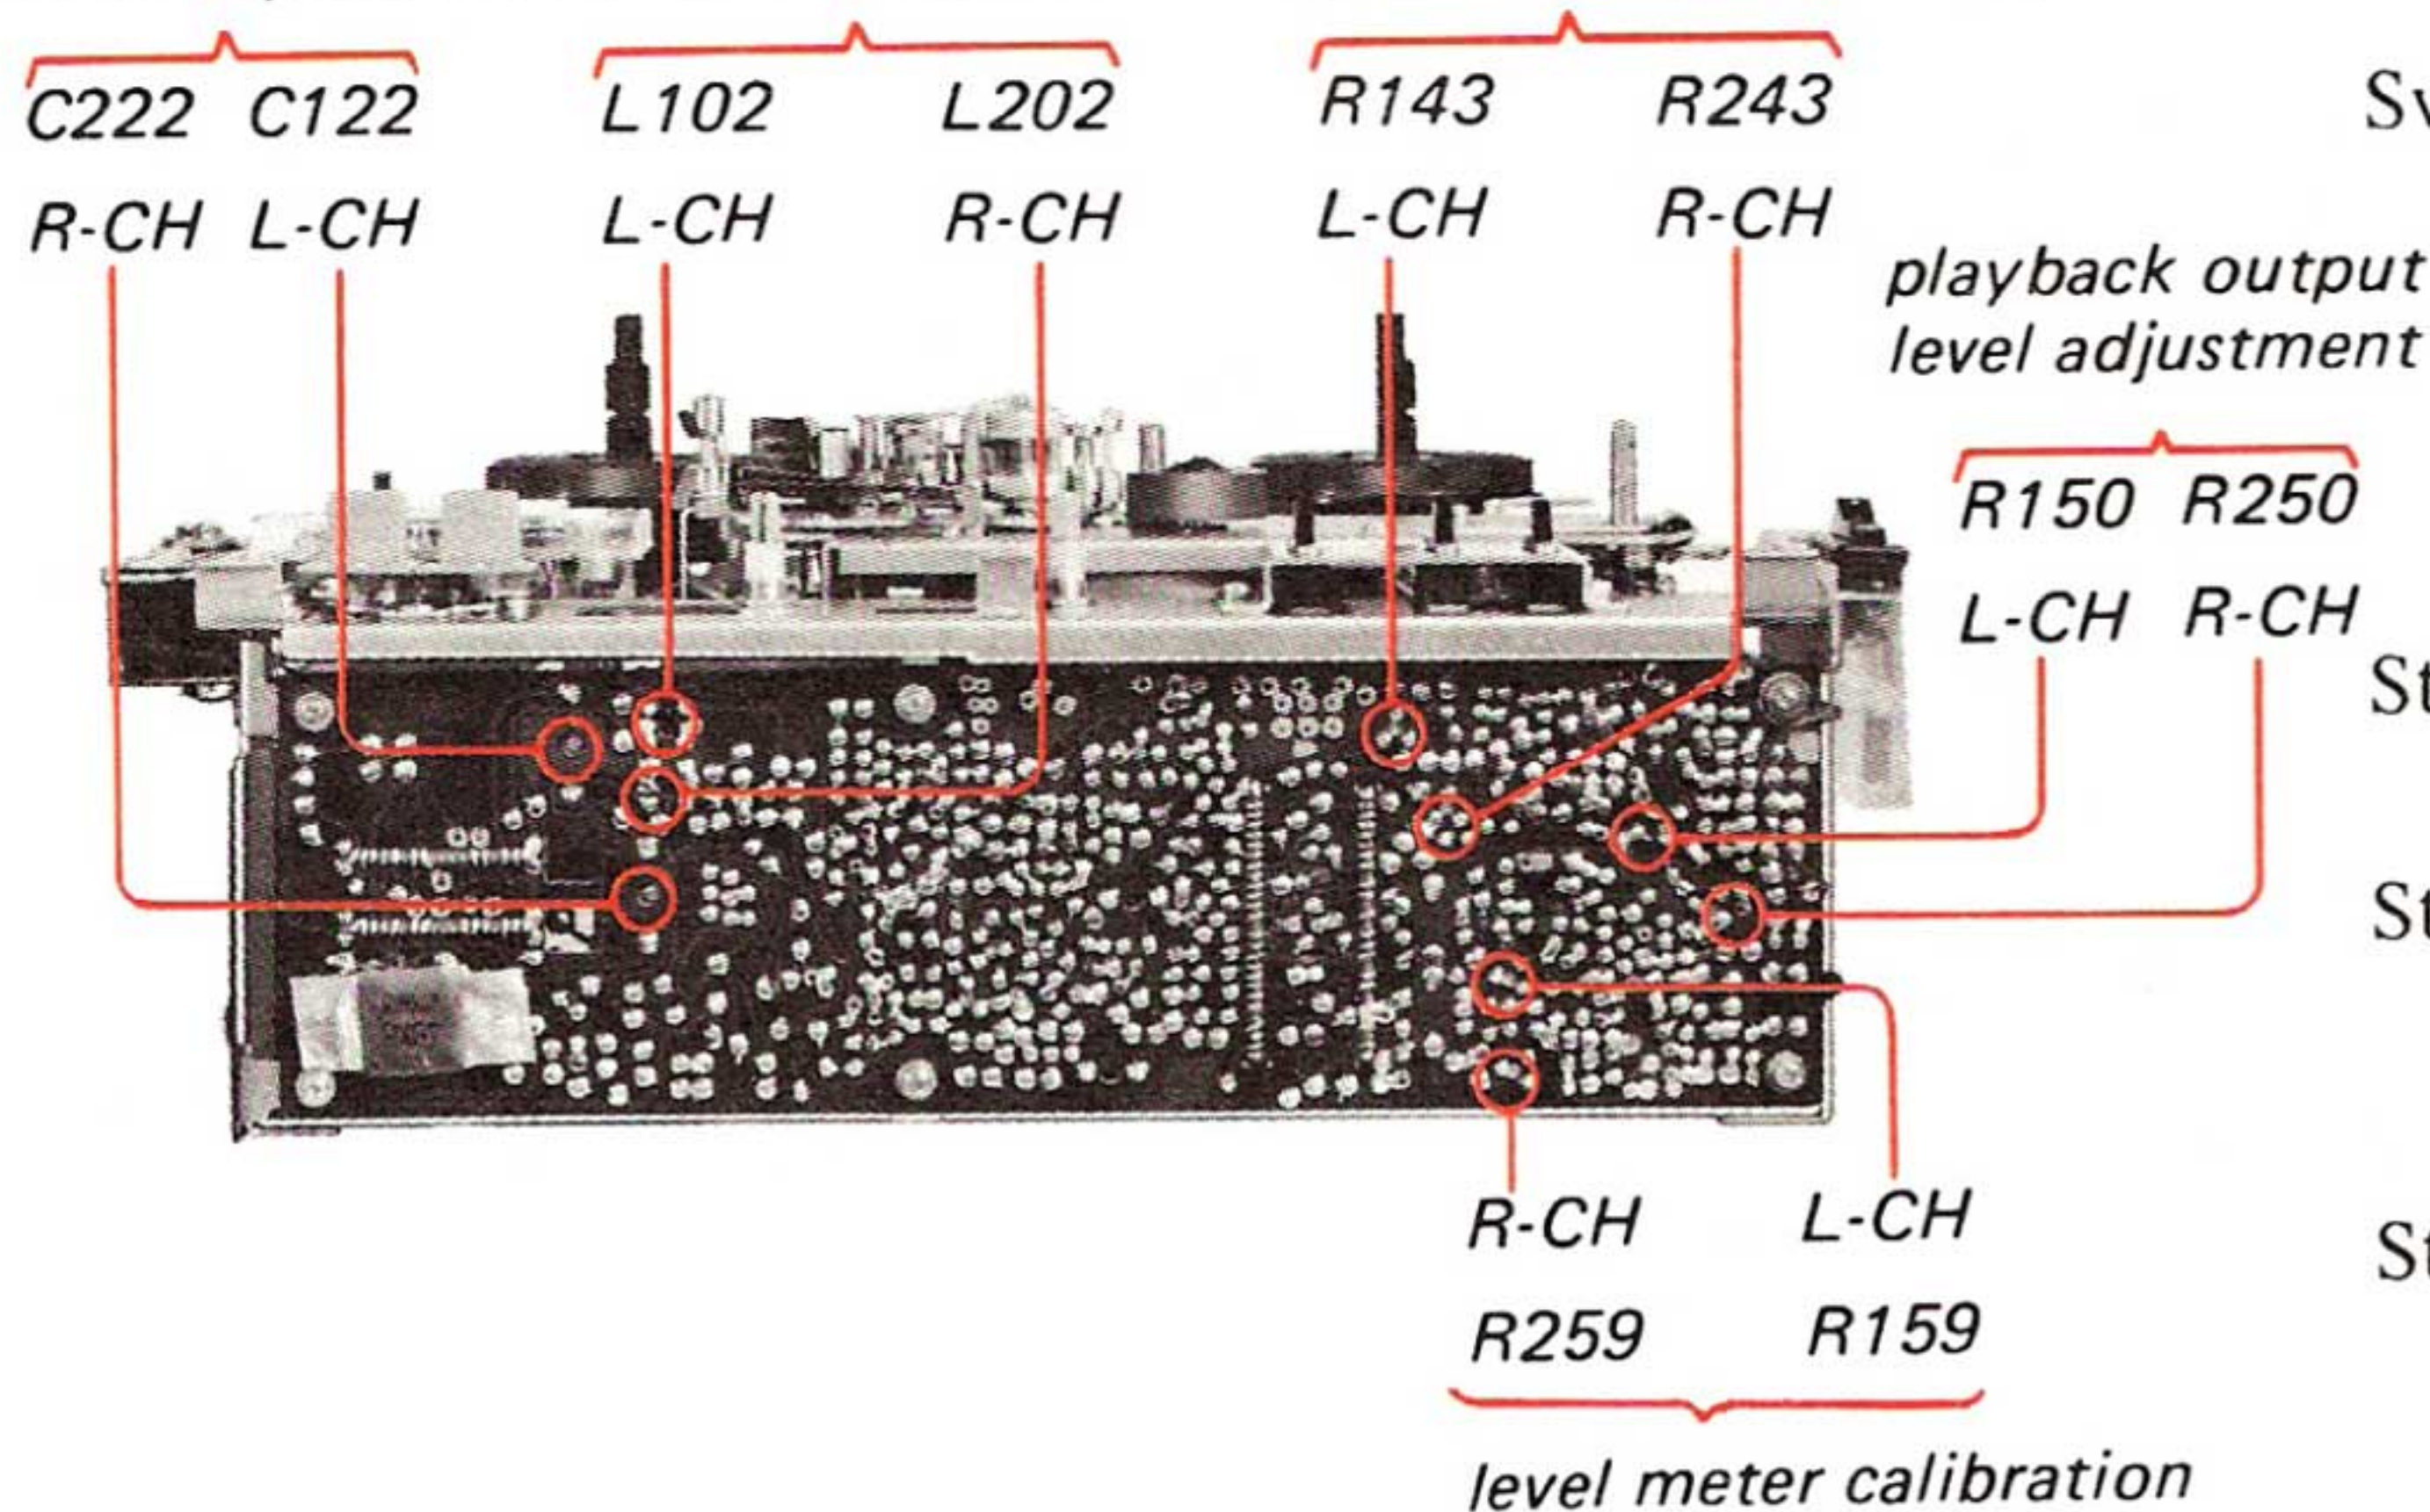

Fig. 3-2-11. Adjusting parts location for the items 5, 6, 7 and 10
- Step 3. Adjust the R150 (R250) to obtain 0 dB (0.775 V) on the VTVM. (See Fig. 3-2-11.)
- Step 4. Adjust the R159 (R259) so that the pointer of level meter stops at the figure 0 on the scale. (See Fig. 3-2-11.)
- Step 3. Play back the 4th tone (10kHz) and adjust R143 (R243), to obtain the same VTVM reading as the step 2. (See Fig. 3-2-11.)
Step 2. Adjust the L102 (L202) to obtain the minimum VTVM reading (less than -5 dB, 0.433 V). (See Fig. 3-2-11.)